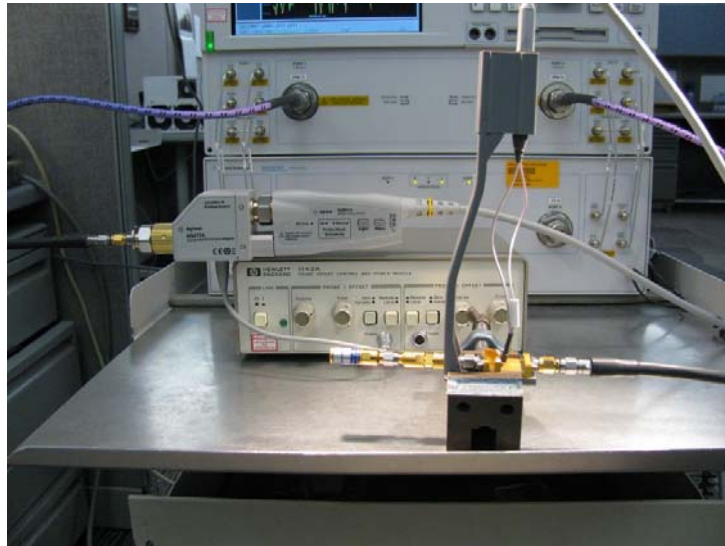

Figure 58 Setup to measure “Vout” of probe
- 10 Now move the 2.92 mm male test port 1 connector to the 5062_1247 adapter and N5477A Autoprobe II adapter assembly. Connect the Maury Microwave 8775B2 2.92 mm male broadband load to the 1250_1749 adaptor and N5443A PV fixture assembly. This new setup is shown in Figure 58. Torque all connections.